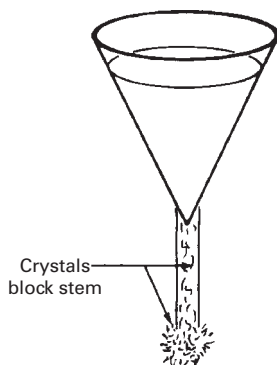

FIGURE 13.2 The “too long a funnel stem—oops!” problem.
2. Get yourself a **stemless funnel** or, at least, a **short-stem funnel**, or even a **powder funnel**. Why? Go ahead and *use* a long-stem funnel and watch the crystals come out in the stem as the solution cools, blocking up the funnel (Fig. 13.2).